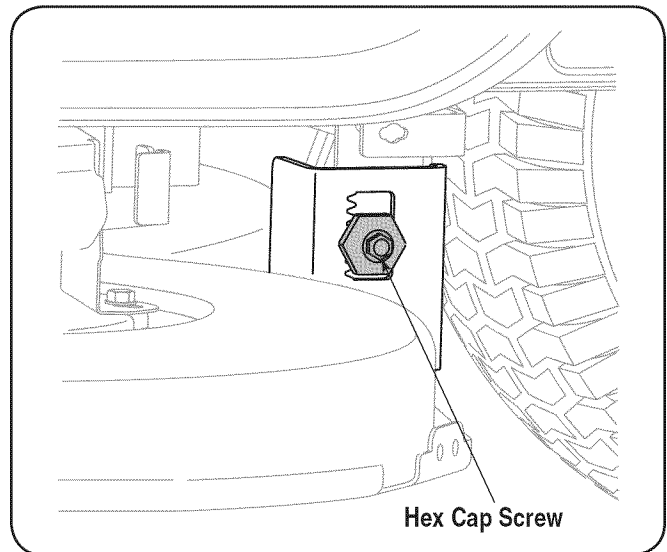

Figure 6-5
- Loosen, but do NOT remove, the hex cap screw on the left deck hanger bracket. See Figure 6-5.